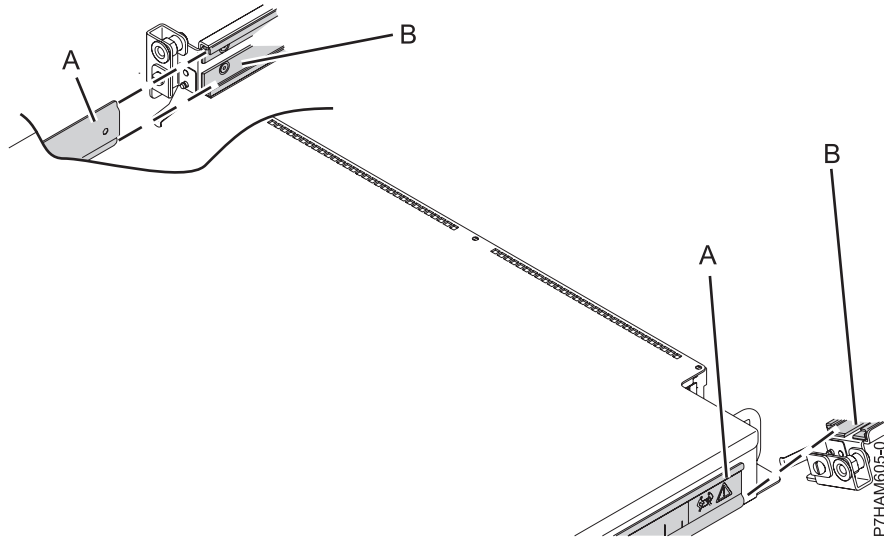

Figure 8. Reviewing the enclosure attachment to the rails
- a. Before attempting to mount the PCIe storage enclosure to the rails, review Figure 8 to observe how the chassis bracket guide (A) on the side of the enclosure fits and slides into the rail sheath (B) that matches its shape.
Note: In Figure 8, the right rail (B) is portrayed at an angle to show the location of the rail sheath. The actual rail is mounted in an upright position in the rack.